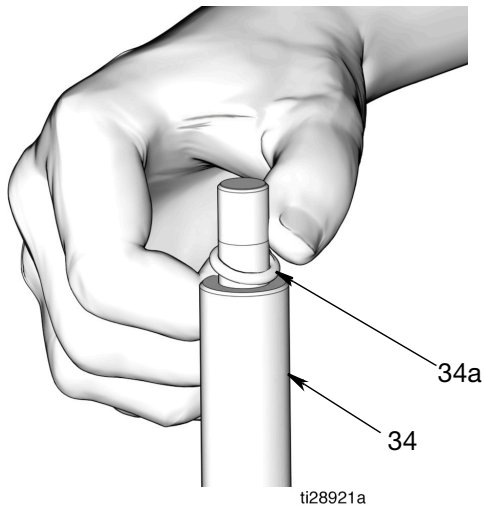

FIG. 30
4. Use a clean cloth to wipe down the piston rod (34) and the piston (5) to remove any dirt or contaminants. Inspect surfaces for any scratches or damage. Replace damaged parts.
5. Apply a thin layer of grease to the o-ring (34a). Install the o-ring over the grooves of the piston rod (34) (FIG. 30).